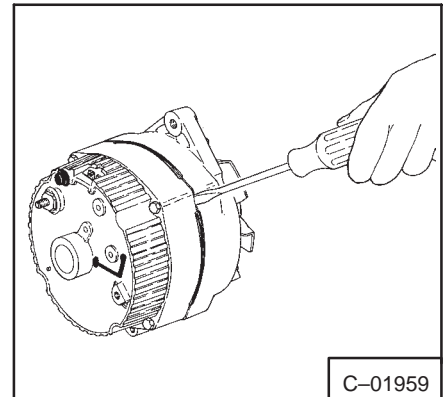

Fig. 6-5 Separating Alternator Housing
4. Use a screwdriver to separate each half of housing (Fig. 6-5). Slide the rotor out of the housing.